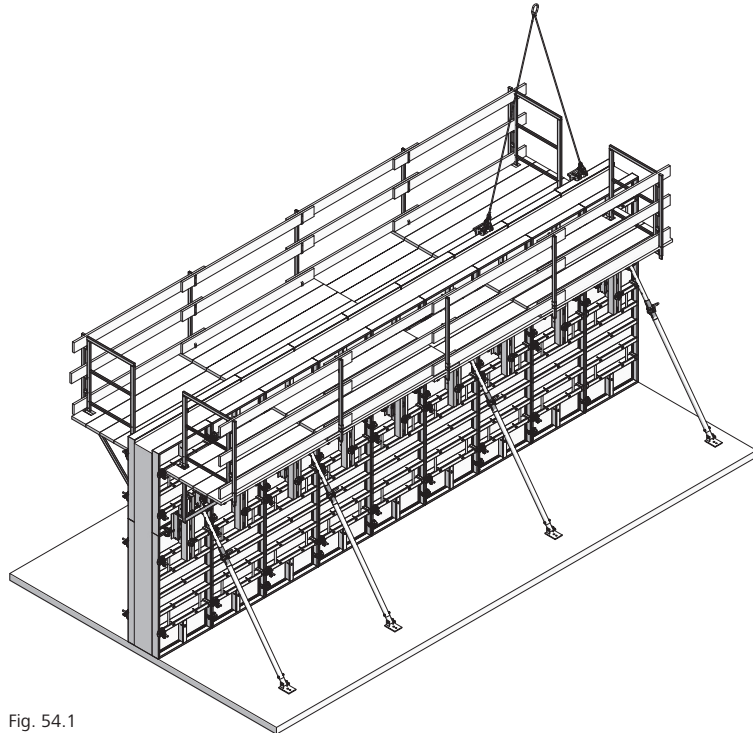

Fig. 54.1
5. Lift gang and move to next pour (bracing required), temporary storage, or disassembly area (Fig. 54.1).